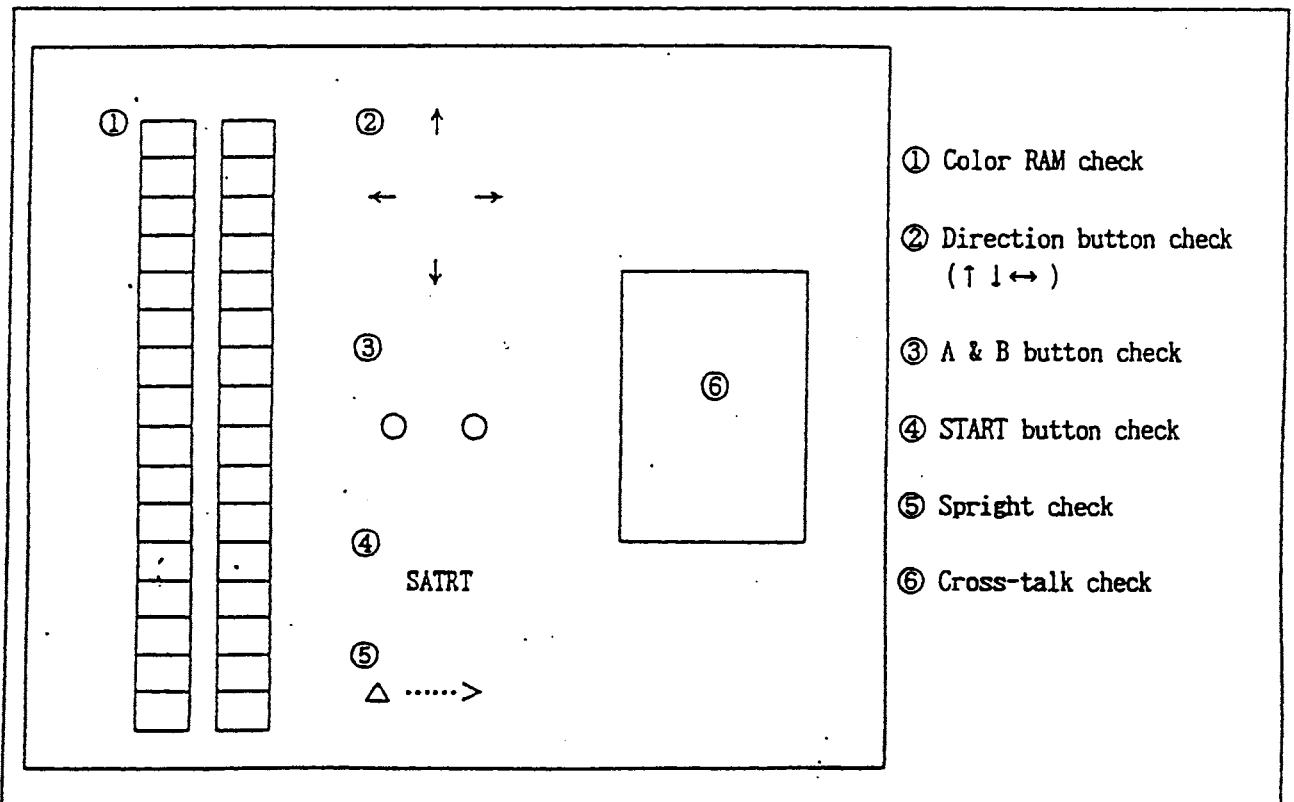

Fig. 1 Check screen
(I) Check the following 3 items in the state of black screen until the check screen (Fig.1) appears after turning on the power. If an error occurs, the error messages as shown in Table 1 appear in white characters on the red background. At this point, terminate the checking and stop further checking work.
- ① Scratch RAM R/W check
- ② V_RAM R/W check
- ③ Communication port check (Parallel & Serial)
(II) If the above check (I) is O.K., check the following 5 items as the check screen (Fig.1) appears.
- ④